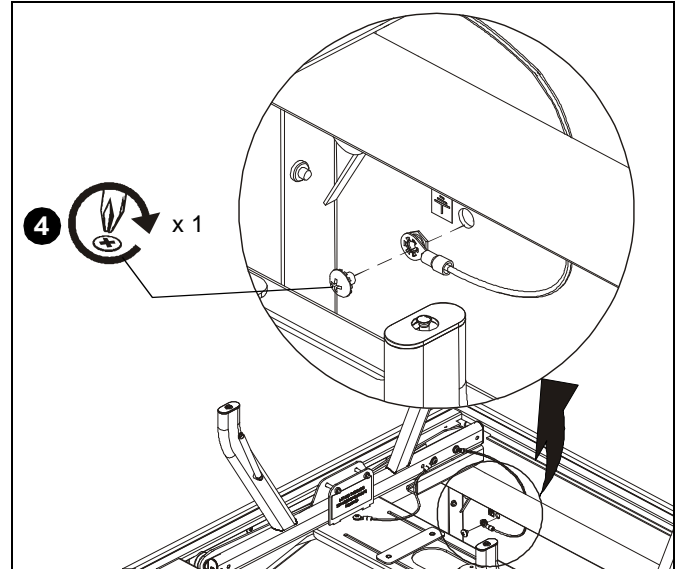

Figure 20
4. Reconnect grounding strap from inside front of SL220 to projector cradle, using the Phillips head screw previously removed. (See Figure 20)